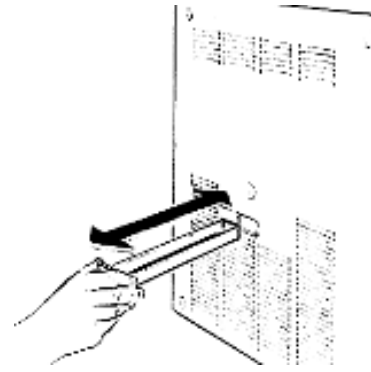

Fig. 49
- Remove the side drawer as indicated in Fig. 49 and check for some dripping remembering to reinsert it once checked.